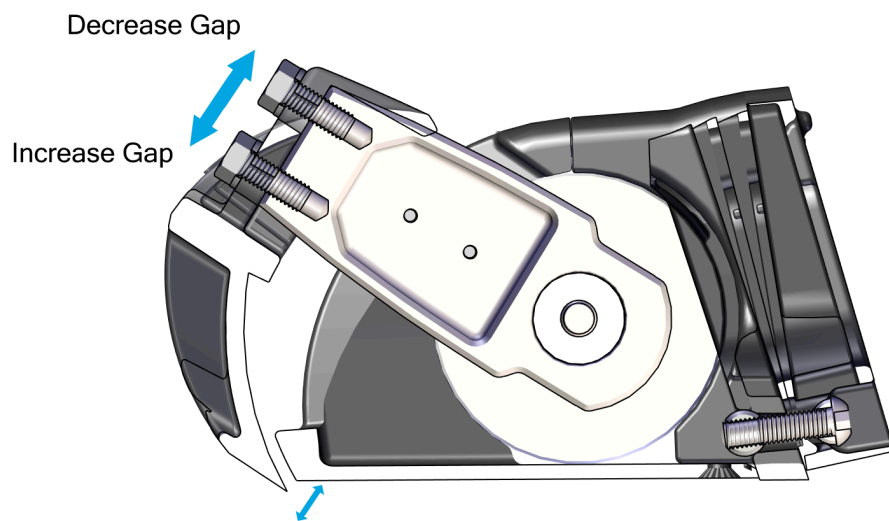

Figure 73 – Blade Gap Adjustment
- Before torquing, the Blade can be slid up and down slightly to bring it closer and farther away from the Seal Plate, respectively. If the Blade is rubbing and creating friction against the Seal Plate, or if the gap appears too large, adjust the Blade accordingly. Contact Seakeeper if there are still concerns with Blade gap tolerance after following these instructions. (Figure 73 – Blade Gap Adjustment)